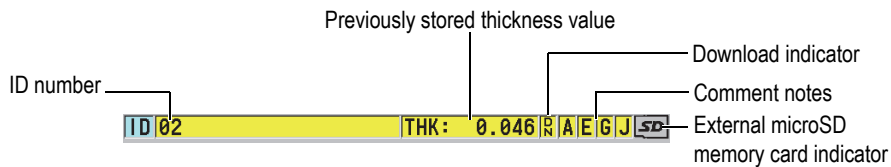

Figure 3-2 The ID bar
The ID bar, located at the top of the measurement screen, contains the ID for the actual thickness measurement location, the previously stored value, and comment notes indicators (see Figure 3-2 on page 54). The download indicator (R) appears when the previously stored thickness measurement comes from a file rather than from a newly acquired value.